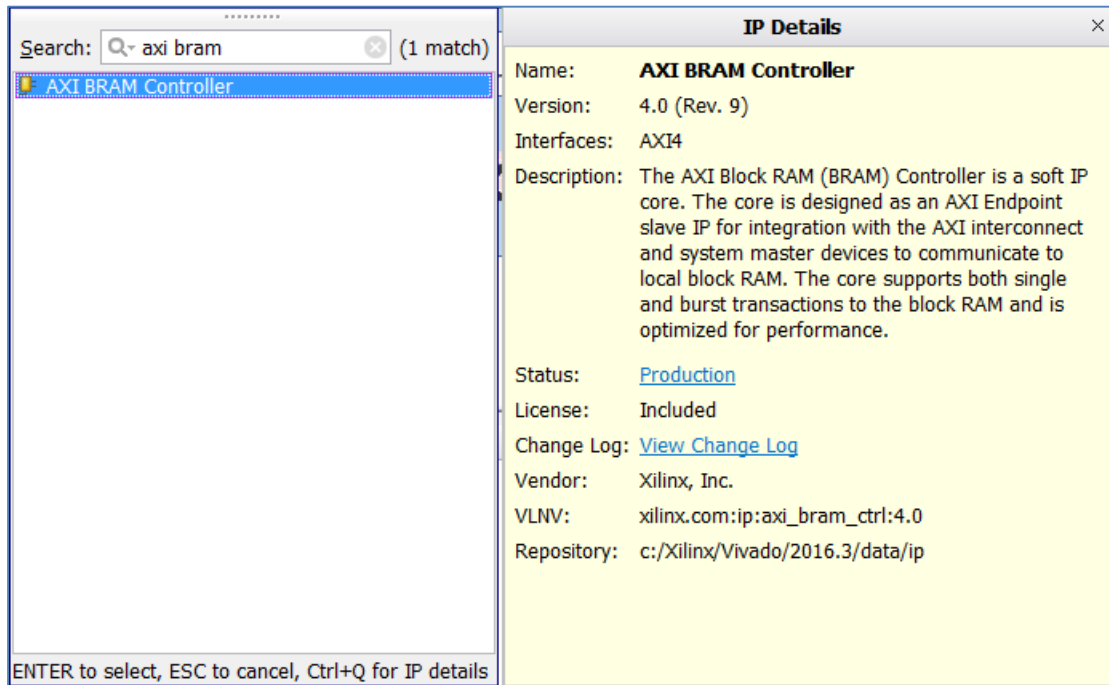

Figure 93: Add BRAM Controller
1. Add the AXI BRAM Controller shown in Figure 93 by right-clicking on the IPI canvas and selecting **Add IP**.